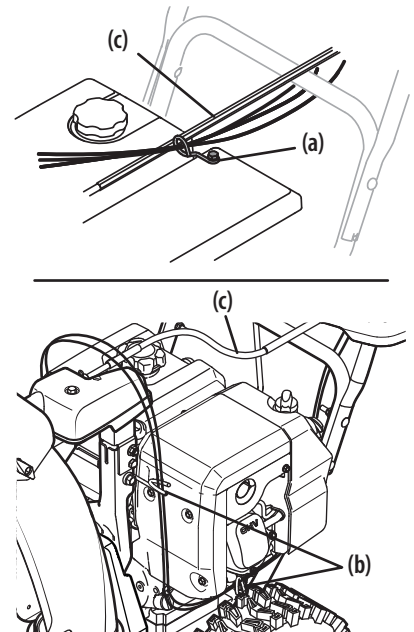

Figure 2-49
- Units with Top Mounted Wire Guide (a) - Check that all cables are properly routed through cable guide on top of engine. See Figure 2-49.
- Units with Side Mounted Wire Guides (b) - Check that all cables are properly routed through the wire guide below the left side of the engine and the wire guide below the chute control head. See Figure 2-49.